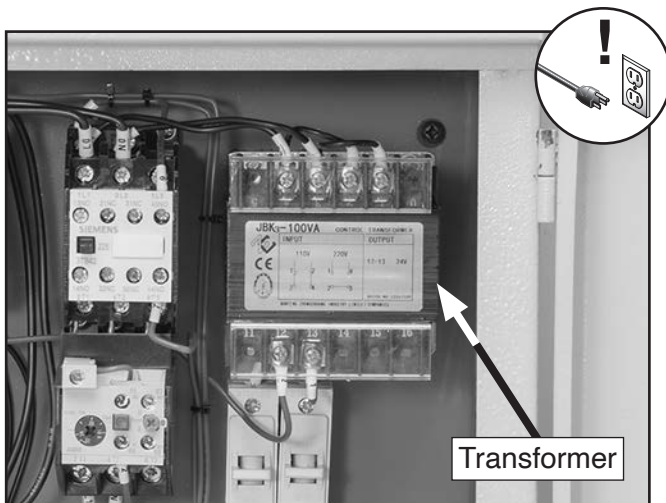

Figure 7. Location of transformer.
3. Open electrical cabinet on lower right hand side of machine and locate transformer (see **Figure 7**).